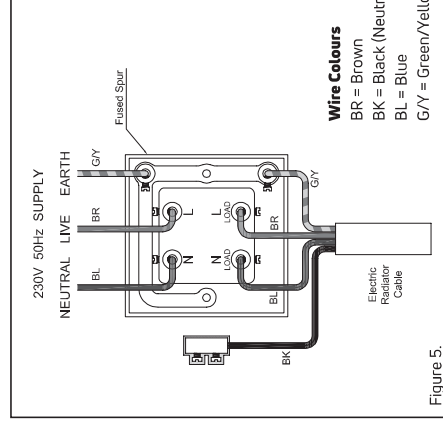

Figure 5.
- The radiator should be connected by a suitable and qualified electrician. Please refer to the wiring diagram (figure 5) for the connection of the radiator.